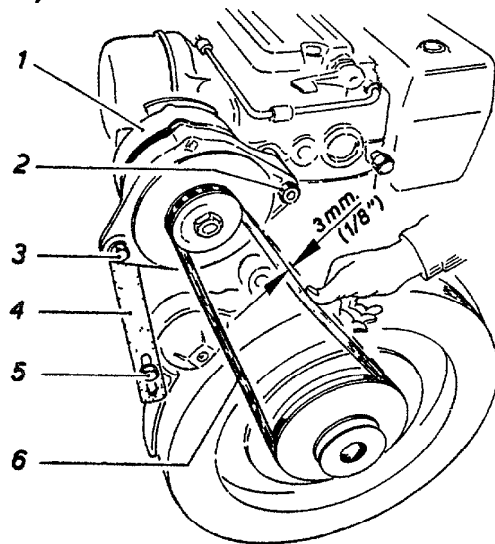

Fig. 47
In the case of engines fitted with impeller pump and alternator, V-belt (3) tensioning is carried out as described for engines with alternators (see Fig 47), but with the tension tested midway between pump and alternator.